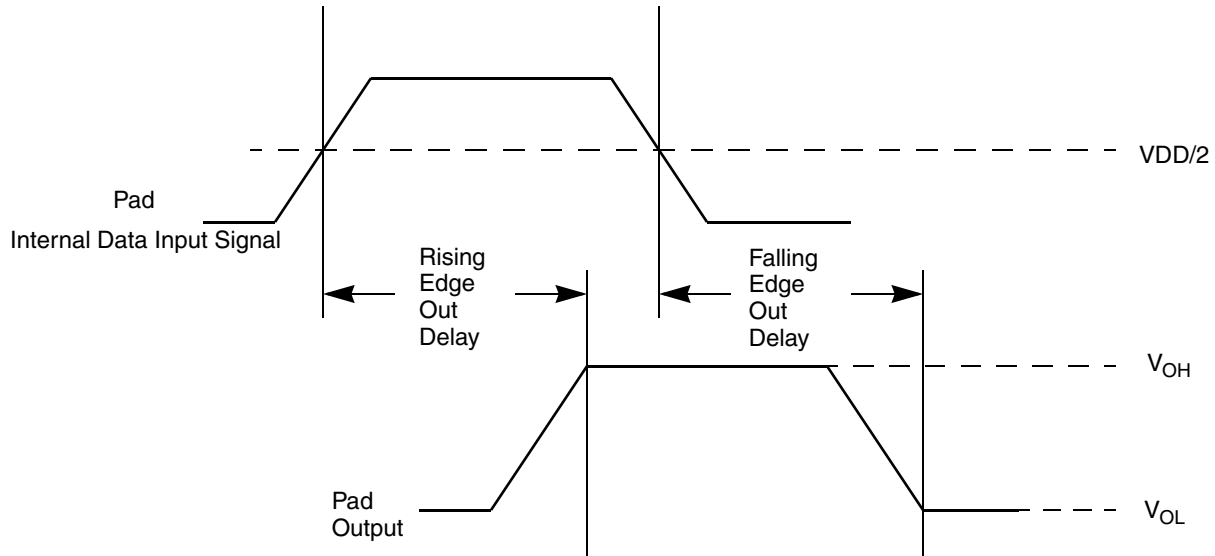

Figure 3. Pad Output Delay
- 3 Out delay is shown in Figure 3. Add a maximum of one system clock to the output delay for delay with respect to system clock.
- 4 Out delay is shown in Figure 3. Add a maximum of one system clock to the output delay for delay with respect to system clock.